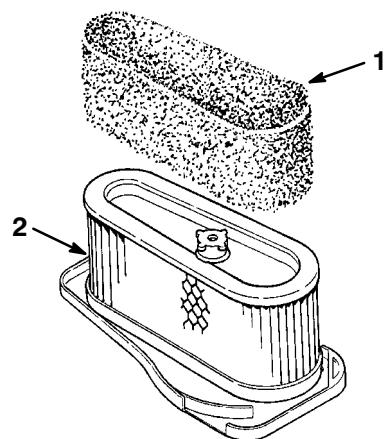

Figure 24
4. Carefully slide the foam element off of the paper element (Fig. 24).
1. Carefully slide the foam element onto the paper air cleaner element (Fig. 24).